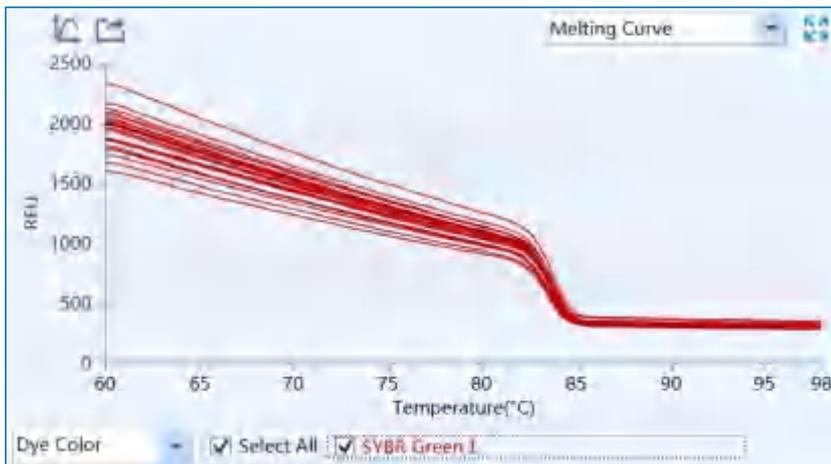

Figure D-12.1. Melting Curve analysis interface - Melting Curve functional module
- I. **Melting Curve:** display the fluorescence intensity against the temperature, as shown in figure D-12.1.